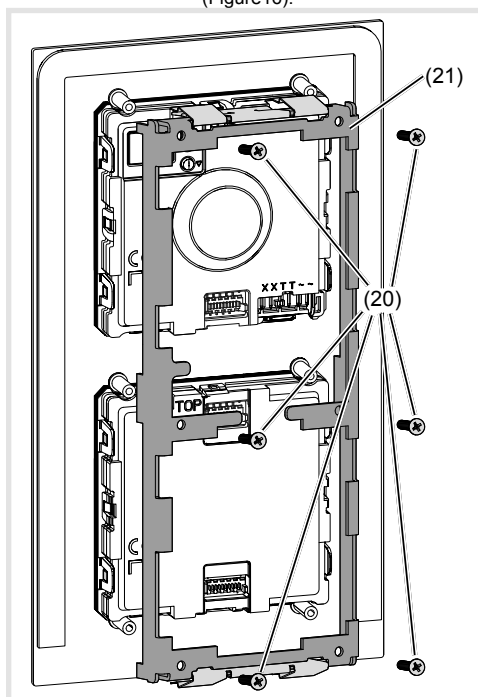

Figure 16: Dismantling module mounting
- Pull off connection terminal block (12) on the audio insert.
Loosen screws (20) of the module mounting at the back (21) using a screwdriver and remove the module mounting (Figure 16).